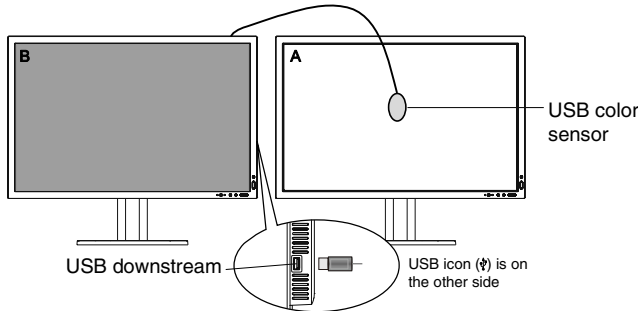

Figure C.1
3. Plug-in the USB color sensor to the side (or bottom when Portrait orientation) USB downstream port (**Figure C.1**).
8. The procedure will ask for the USB color sensor to be placed on the center of the display panel (**Figure C.5**). Tilt the display panel approximately 5° backward and place the USB color sensor in the center of the display panel (**Figure C.1**).